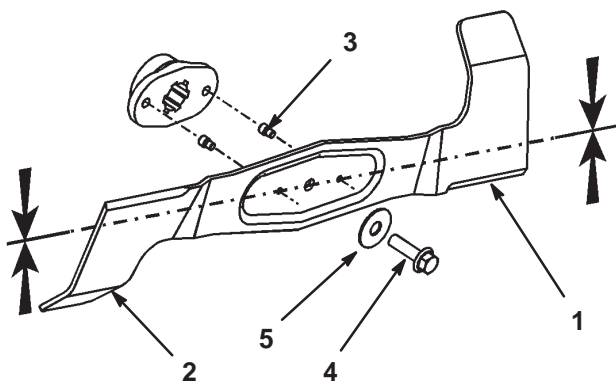

Figure 35
2. Inspect the cutting edges (Fig. 35). If the edges are not sharp or have nicks, remove the blades and sharpen them; refer to Sharpening the Blade(s), page 30.
3. Inspect the blades, especially the bent edges (Fig. 35). If you notice any wear or damage in this area, immediately install a new blade.
4. If the shear pins are broken, replace them immediately (Fig. 35).
3. Remove the bolt, washer, and blade (Fig. 35). A block of wood may be wedged between the blade and the mower to lock the blade when you are removing the bolt.
1. Install the blade, washer, and blade bolt (Fig. 35).